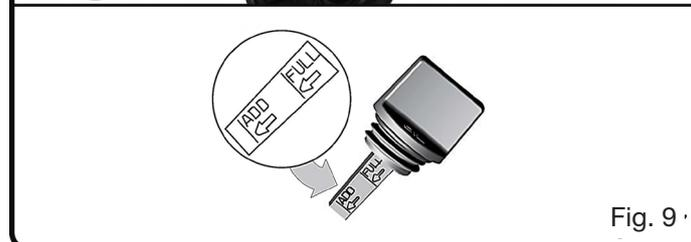

Fig. 9
5. When oil level is full, the oil will be at upper limit on dipstick. If oil level is near or below the lower limit, oil must be added. (See Fig.9)